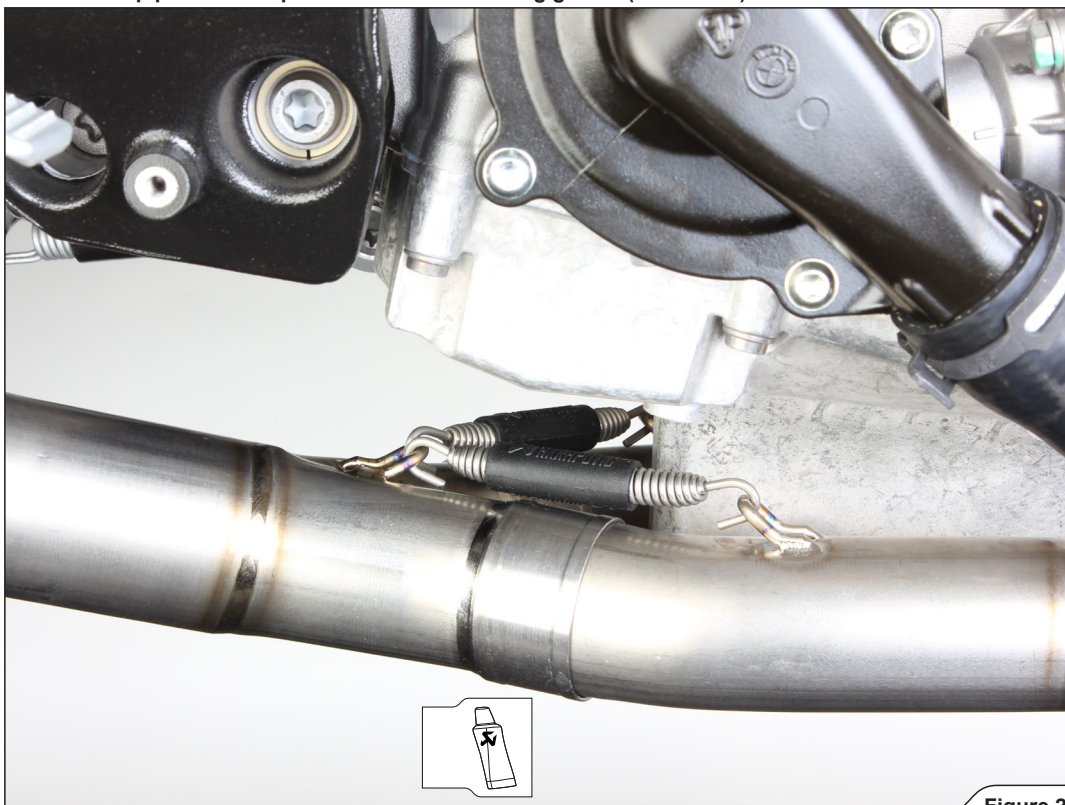

Figure 26
4. Slide the link pipe onto the collectors and attach the springs (Figure 26).